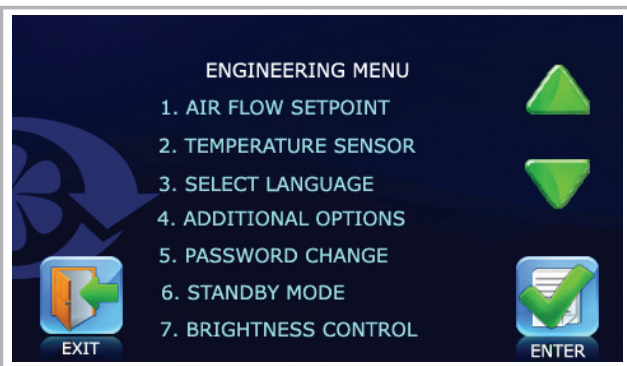

Fig. 16. Engineering menu
To navigate through the engineering menu use the following buttons (fig. 16, 17):
Find the item «**AIR FLOW SETPOINT**» in the engineering menu and press the button **ENTER** (fig. 16).
To select a heat control sensor select the item **TEMPERATURE SENSOR** in the engineering menu and press the button **ENTER** (fig. 16).
the button **ENTER**  (fig. 16).
menu list and press the button **ENTER**  (fig. 16).
- Select the item **PASSWORD CHANGE** in the engineering menu list and press the button **ENTER** (fig. 16).
- Select the item **STANDBY MODE** in the engineering menu list and press the button (fig. 16).
- Select the item **BRIGHTNESS CONTROL** in the engineering menu list and press the button **ENTER** (fig. 16).